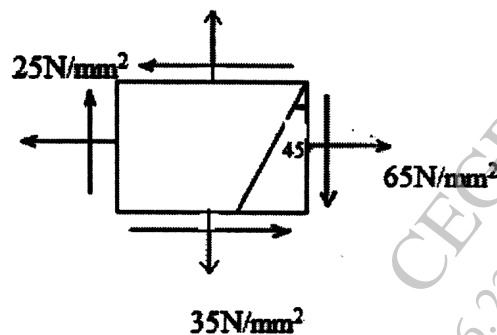

Fig 7
7. (a) A plane element is subjected to stresses as shown in fig.7. Determine principal stresses, maximum shear stress and normal stress on plane inclined at 45° as shown in fig. using Mohr's circle [7M]